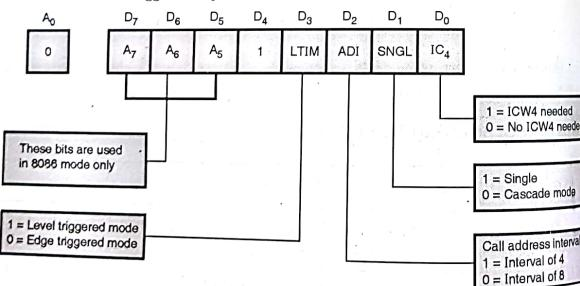

Fig. 18.6.2 : Initialization command word 1 (ICW1)
- (2) It clears interrupt mask register hence all interrupt are unmasked.
- (3) It assigns lowest priority to IR₇ and highest priority to IR₀.
- (4) It sets slave identification number of slave 7 (1,1,1), if D₁ bit of ICW1 is '0'.
- (5) It clears special mode and sets the status read to IR_R, i.e. microprocessor can read IR without issuing a special command word.
- (6) Refer Fig. 18.6.2.